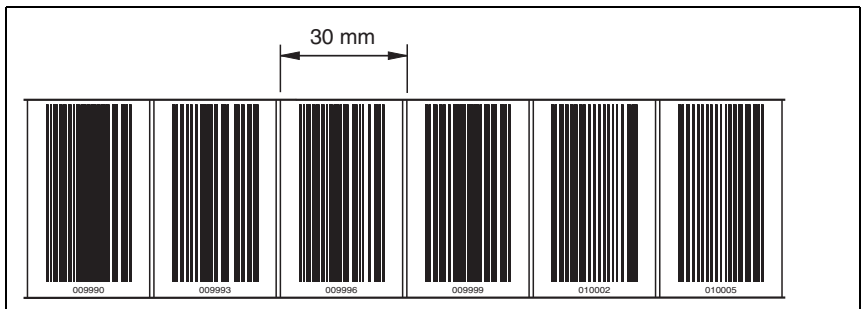

Figure 6.10:Checking the print results of the BCB repair kit
3. Verify the printing result by measuring the distance between two codes (see Figure 6.10).